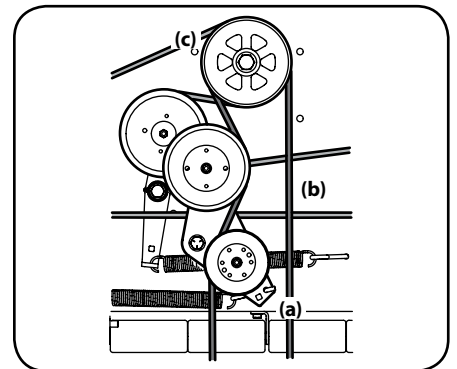

Figure 4-11
4. Using a ½" drive in the idler pulley bracket (a), turn the wrench towards the right of the tractor and slide the PTO belt (b) off the PTO pulley (c). See Figure 4-11.